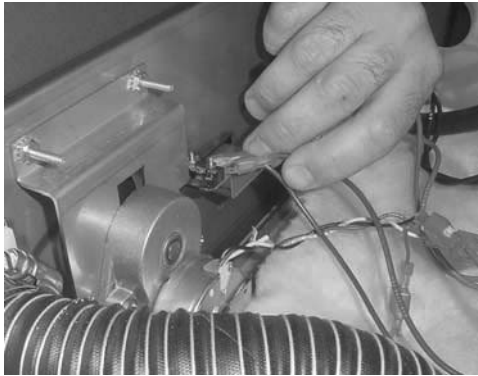

Figure 3-58
2. Label and pull the wire connectors from the microswitch. Figure 3-58.